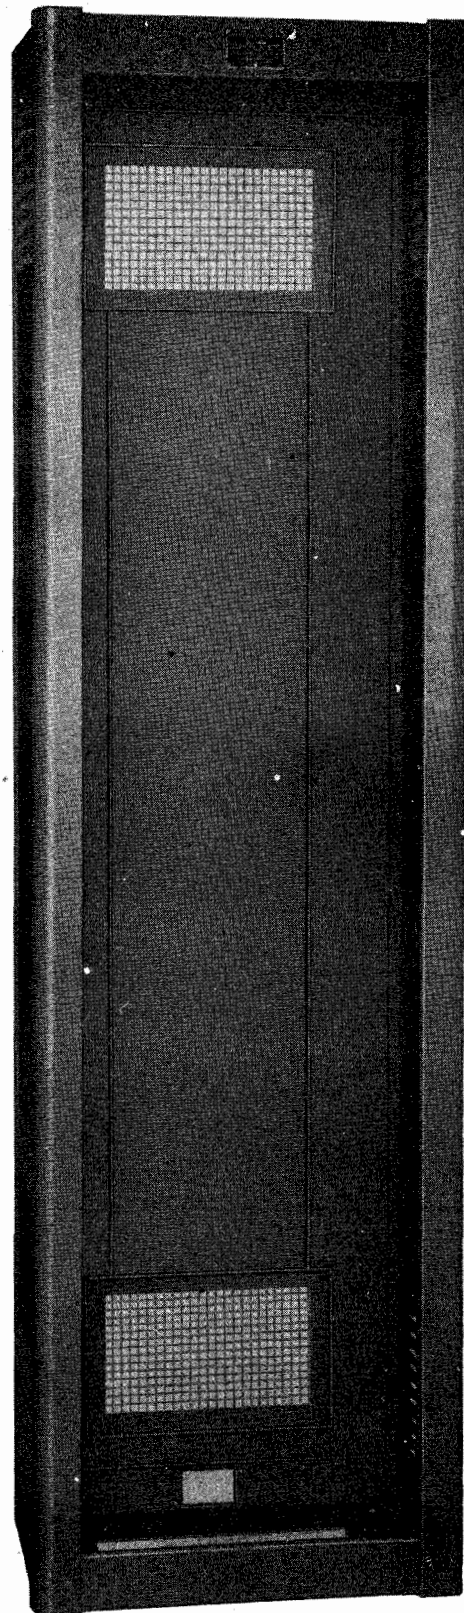

Figure 1-7. Model RXA Antenna Multicoupler Assembly, Cabinet Rack, Navy Type CQP-10570
*b.* CABINET RACK. (See figure 1-7.)—The cabinet rack which houses Model RXA Antenna Multicoupler Assembly is 82 inches high and of all-welded construction. A full length hinged door permits access to the rear of the rack. A rectangular opening 6 x 14 inches is provided in the bottom of the cabinet for entrance of radio-frequency and power cables. Four ½-inch diameter holes are provided in the bottom of the cabinet near the corners for securing the equipment to the floor (Figure 3-1). The cabinet is provided with a sufficient number of vent holes to provide adequate ventilation for the heat dissipated by the power and multicoupler units.